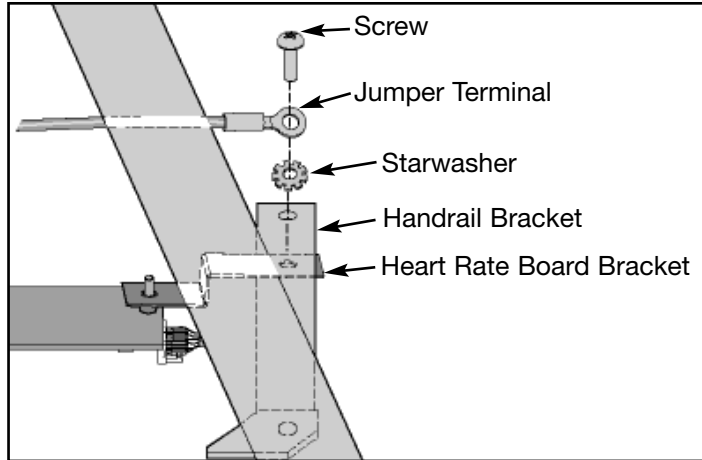

Figure 25
- A.** Disconnect these cables from the display board: the display cable (2 connectors); the two upper switch membranes; the lower switch membrane; the contact heart rate cable and the upper to lower board jumper. See Figure 25.
B. Using a Phillips head screwdriver, remove the nine black screws that hold the console front to the handrail. **NOTE:** Do not loose the starwasher that is under the CSAFE jumper terminal. See Figure 25.
- A. Place the starwasher next to the handrail bracket metal and hold the jumper terminal on top. See Figure 25.
- B. Place one of the nine Phillips head screws removed in step 4B through the terminal, starwasher, handrail bracket and heart rate bracket and secure it tightly. See Figure 25.